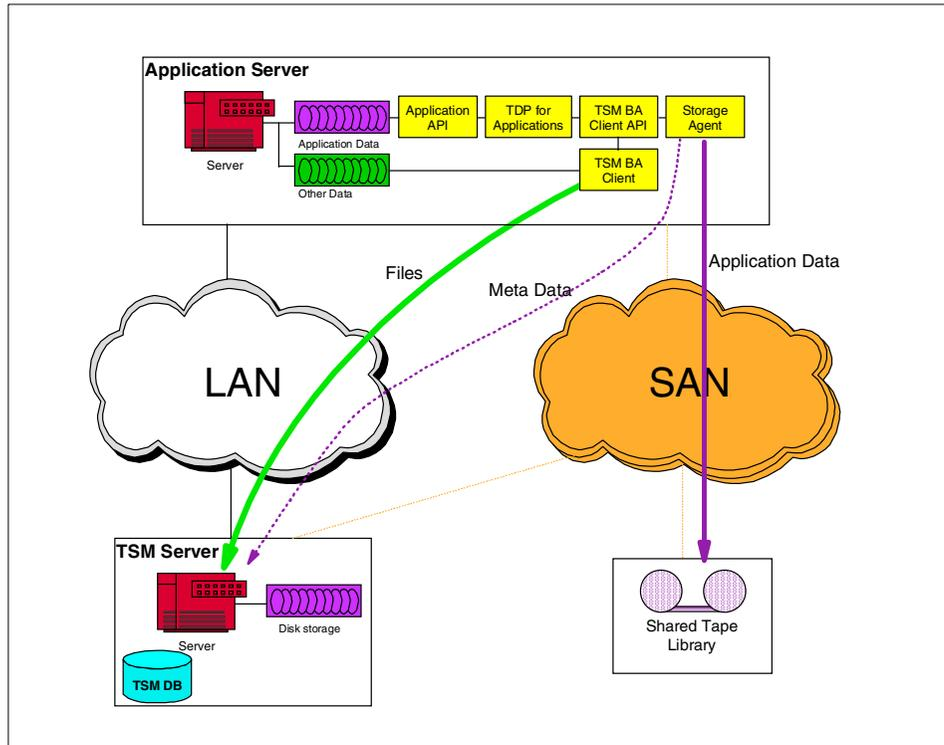

Figure 87. Application server using the Storage Agent
Figure 87 shows the configuration which is the goal of this migration. Application data is passed directly over the SAN to the SAN attached tape library. This is done using the Storage Agent, which communicates with the Tivoli Storage Manager server, sending and receiving metadata. The normal files are still transferred over the LAN network.
1. As shown in Figure 87, the tape library should be SAN attached to a Tivoli Storage Manager server, acting as library manager. The TDP client should send its data directly to a storage pool using this shared library. This setup is the same as the one explained in Section 6.2.1, “Consolidation of multiple TSM server attached libraries” on page 165. Attention should be paid to one thing: the Tivoli Storage Manager Backup/Archive client running on the application server does not use the LAN-free setup. It still sends its data over the network. Therefore, it is imperative that you have at least two management classes defined, one for the TDP client, sending the application data, and one for the Tivoli Storage Manager B/A client sending the other data. The setup of the management class and copy groups for the TDP client is described in Section 6.2.1.2, “Directly node-attached sequential storage pools” on page 173. The setup for the normal Tivoli Storage Manager B/A client, which will normally use a disk pool as initial target for its data, where it will be migrated to the tape pool, is described in Section 6.2.1.1, “Migration-receiving storage pools” on page 168.
Of all the proposed migration scenarios, this one is the most complex, and will involve the most work. The reason for this is that the previous two installations did not require any Tivoli Storage Manager server movement. The tape volumes used before and after the migration were always under control of the same Tivoli Storage Manager server. In this case, the initial Tivoli Storage Manager server, and all of its storage, needs to be moved to a new machine. The resulting layout is the same as in the previous situation (see Section 6.2.2, “LAN attached application servers” on page 175), as shown in Figure 87 on page 177.